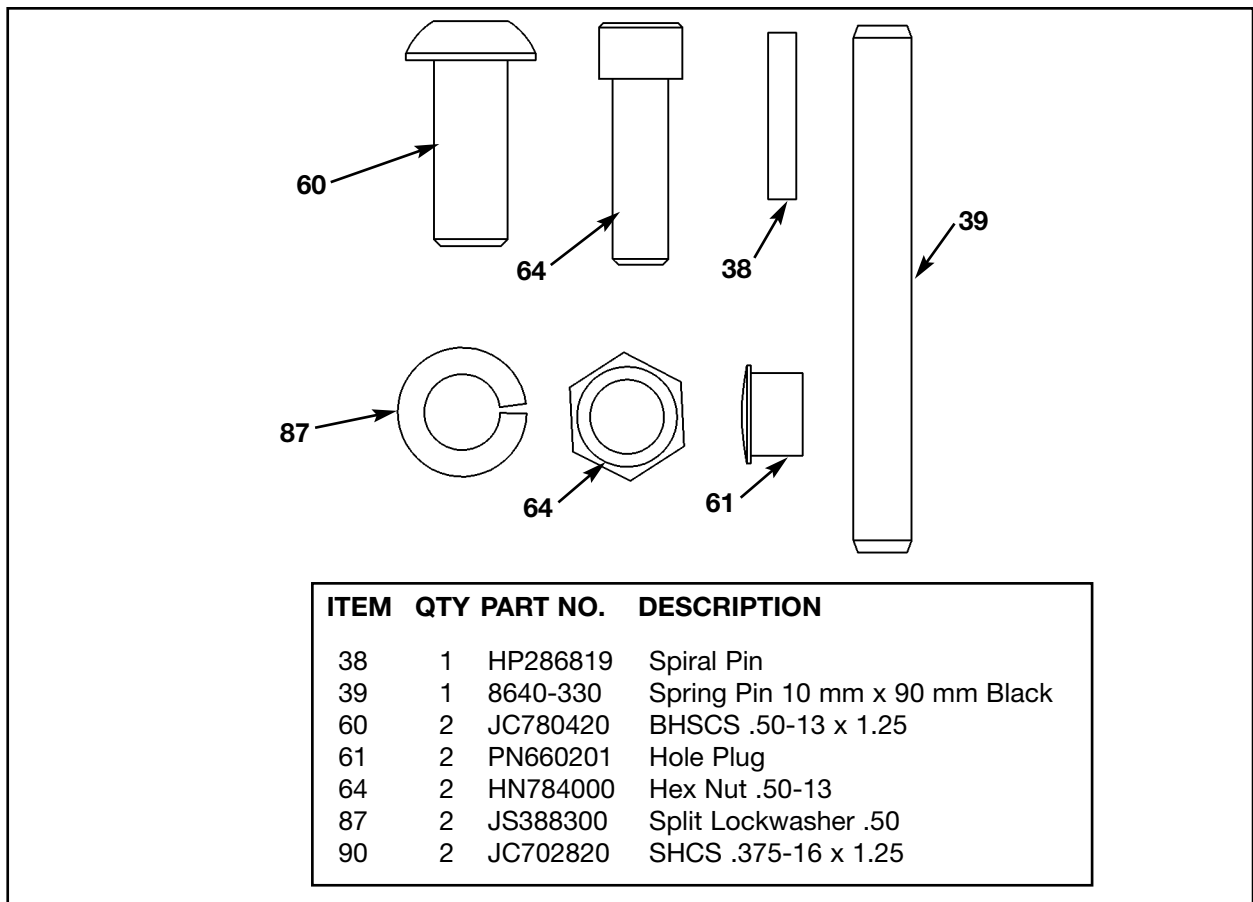

Figure 10
5. Install the Leg Extension/Leg Curl Assembly to the appropriate configuration (see steps 5A - 5F and Figures 10 - 12B).
- B.** Verify contents of hardware pack. See Figure 10.